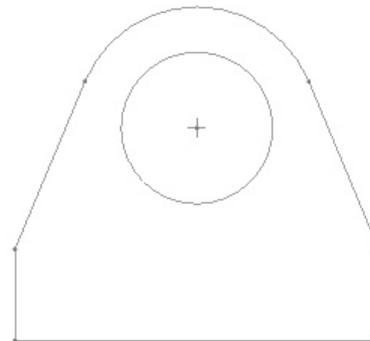

**Figure 2-35** Two circles of radii 2.5 and 4
- Draw circles, refer to Figures 2-35.
15. Similarly, create the other circle with centerpoint and radius values as **0, 7** and **4**, respectively. Figure 2-35 shows the two circles created.